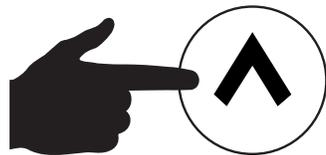

Figure 66. Page Up Button
15. Press the **Page Up** button (Figure 66) to scroll to screen 6 of 7.